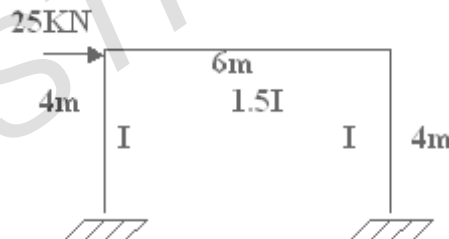

Figure 1
2. Analyse the portal frame shown in figure 1 and Sketch the BMD by using moment distribution method. [16]